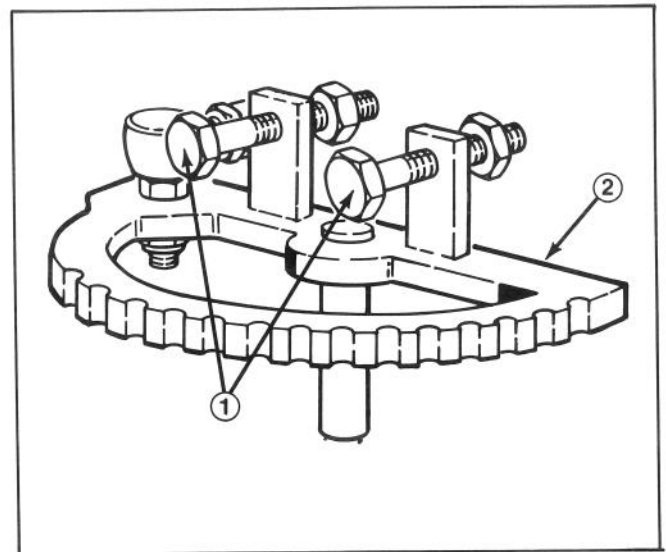

Figure 38
ADJUSTING STEERING STOPS (Fig. 38)
- 1. Loosen locknuts securing stop screws to tabs on steering sector (Fig. 38).